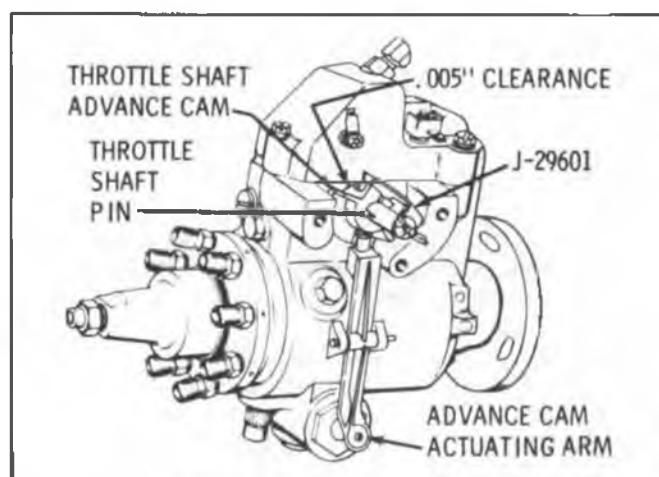

Fig. 2-10 Face Cam Tool, J-29601
6. Install tool J-29601 over the throttle shaft with slots of tool engaging pin. Put the spring clip over the throttle shaft advance cam and tighten the wing nut. Without loosening the wingnut, pull the tool off the shaft. (This provides the proper alignment on reassembly.) (Fig. 2-10.)